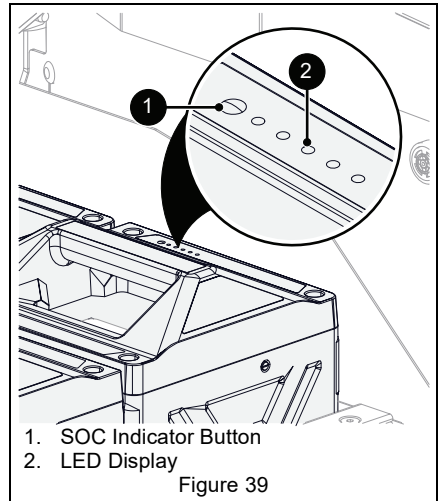

Figure 39
See Figure 39.
- Press SOC indicator button (see Figure 39).